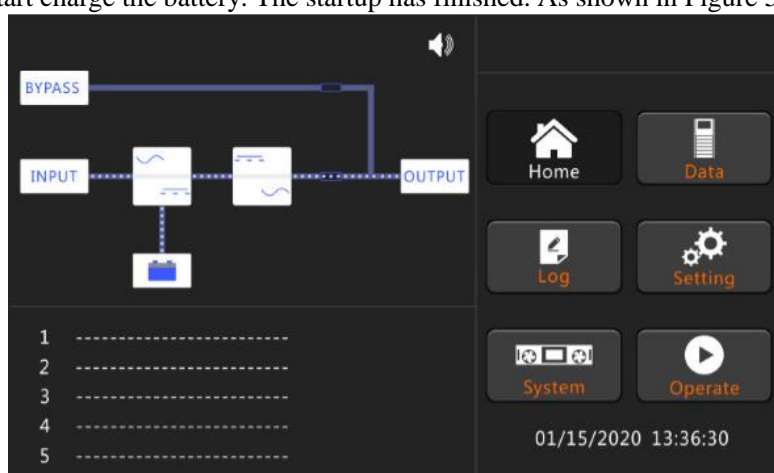

Figure.5.5 Charger start working
- Users can close the external or internal battery breaker, the load indicator bar flashes. Then start charge the battery. The startup has finished. As shown in Figure 5-5.